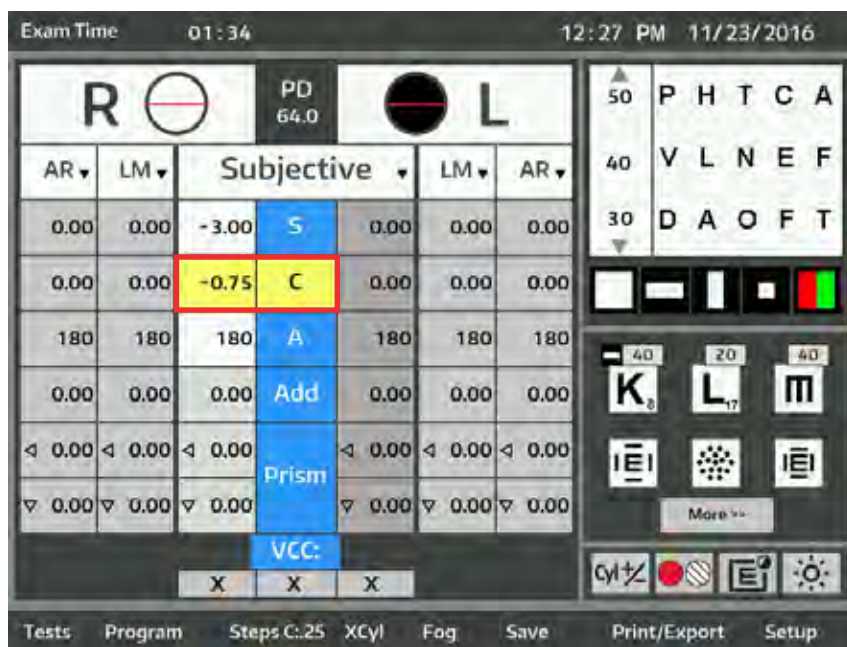

Figure IU-09 Sphere Active Boxes
1. Activate the Cylinder value field by touching the **C** box in the main display area of the screen, activating the Cylinder value field for both eyes. Refer to Figure IU-09.